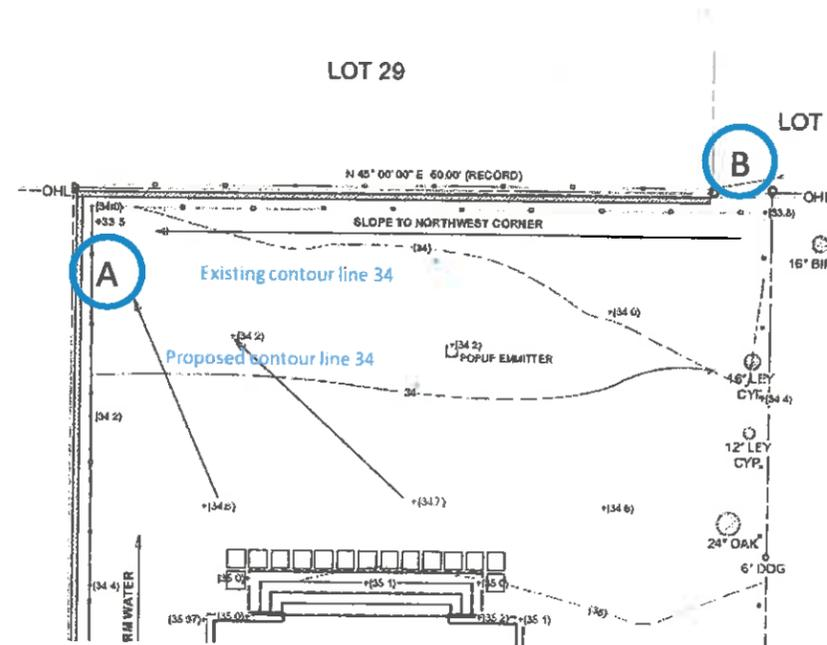

Figure 8: Proposal from the owners of Lot 26
Unfortunately, the solution described in the drawing (figure 8) provided by the advisor to the Roses does not have enough information to judge it. It might be because of some missing pages or because there is a lack of definition. Apparently it seems that some soil will be removed close to the wall to allow water flow towards Lot 29 or Lot 27 through the wall. In any case, there is missing information about land height:
- Detail of the land height in the area close to Lot 29: What will be the slope towards Lot 27 (northwest corner ie. area A in figure 8)? Will it be lower than the point where there is no wall (Lot 25 ie. Area B in figure 8)?